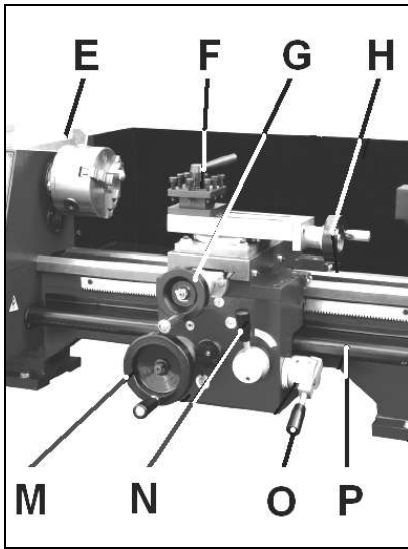

Fig 8
Apron travel (M, Fig 8), cross travel (G) and top slide travel (H) can be operated for longitudinal and cross feeding.
By moving the lever (O, Fig 8) down, the automatic longitudinal feed is engaged.
Engage the halve nut (N, Fig 8). The halve nut must be engaged during the entire threading process.